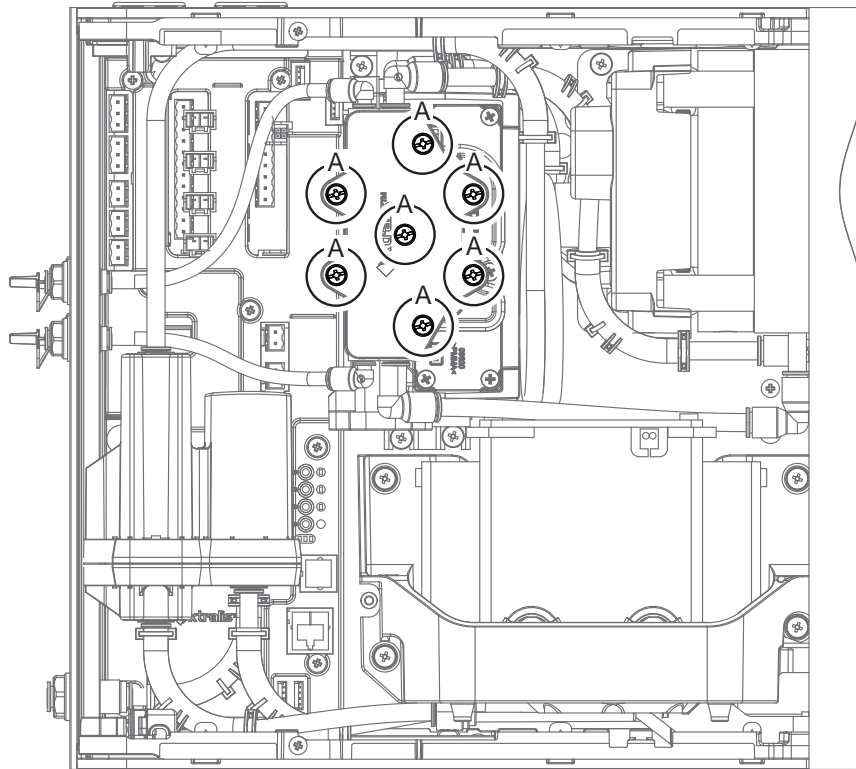

Figure 7-5: Remove filter retaining screws
3. Remove the seven circled screws (A) (Figure 7-5).